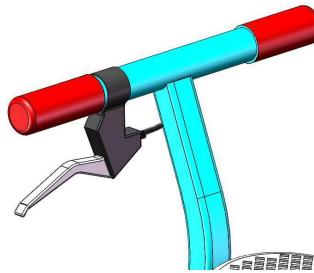

Fig.21
3. Lower the lift: Press the button "UP", until the safety lock is in released position clench the brake handle (See **Fig.21,22**), lower the lift by pushing lowering handle.